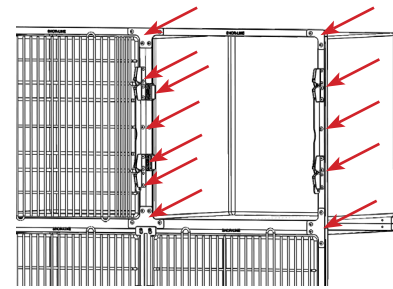

FIGURE 2.10 - Loosen Trim
**STEP 1:** Loosen trim plates, hinges, latch bar and trim strips. Do NOT remove screws or hardware. See FIGURE 2.10